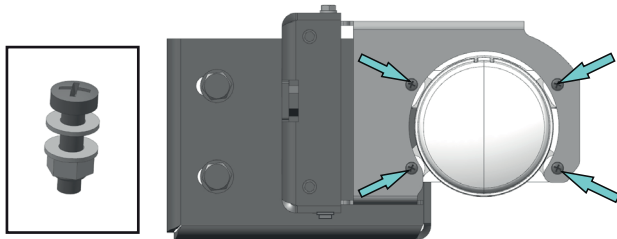

Fig. 20
16. Install OE fog lights on fog lights right bracket (OE plastic bumper Rubicon/Sahara) (item 6) and fog lights right bracket (OE plastic bumper Rubicon/Sahara) (item 7). Fix it using screw M4x16 (item C), washer 4 mm (item G) and nuts M4 (item D). Fix OE fog lights wiring using cable ties (item L) and cable clips (item M) on the vehicle's frame (Fig. 20, 21).